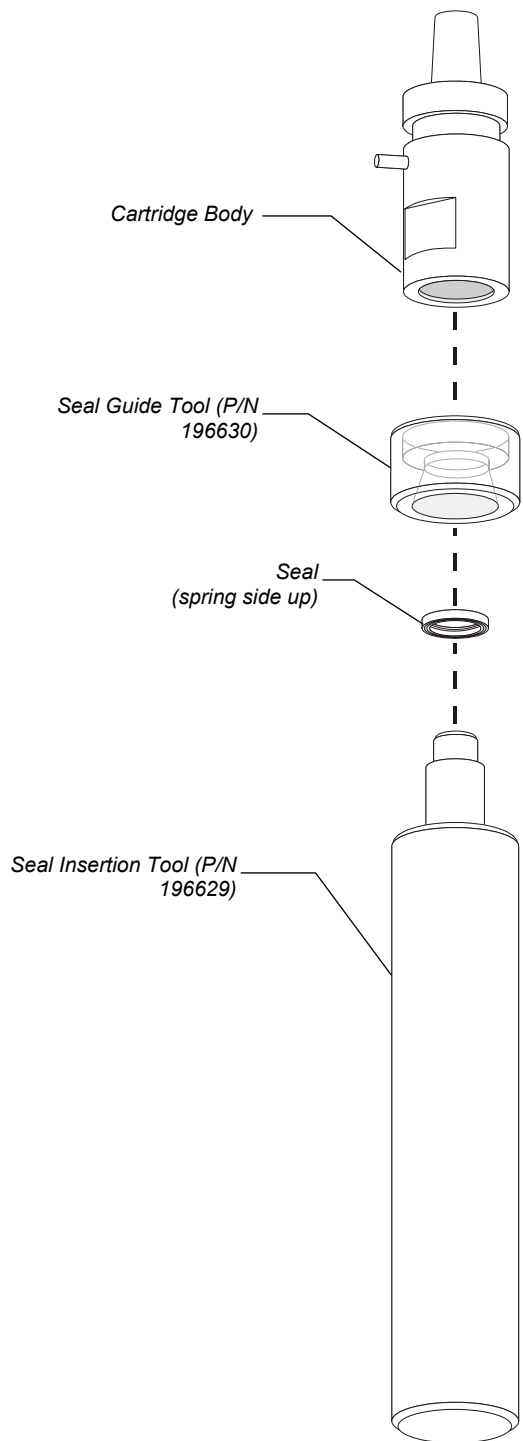

Figure 4-1 Installing a Cartridge Seal
2. Install the seal into the cartridge body as follows (see Figure 4-1):